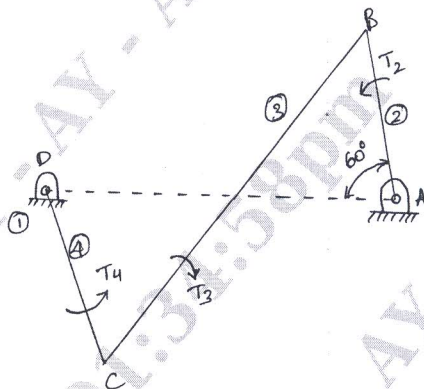

Fig.Q1(c)
- c. In a four bar mechanism shown in Fig.Q1(c) torque  $T_3$  and  $T_4$  have magnitude of 3000 Nm and 2000Nm respectively. Assume  $AD = 800\text{mm}$ ,  $AB = 300\text{mm}$ ,  $BC = 700\text{mm}$  and  $CD = 400\text{mm}$ . For static equilibrium of mechanism, find the required input torque on the crank. [Graphical solution need to be adopted]. (08 Marks)